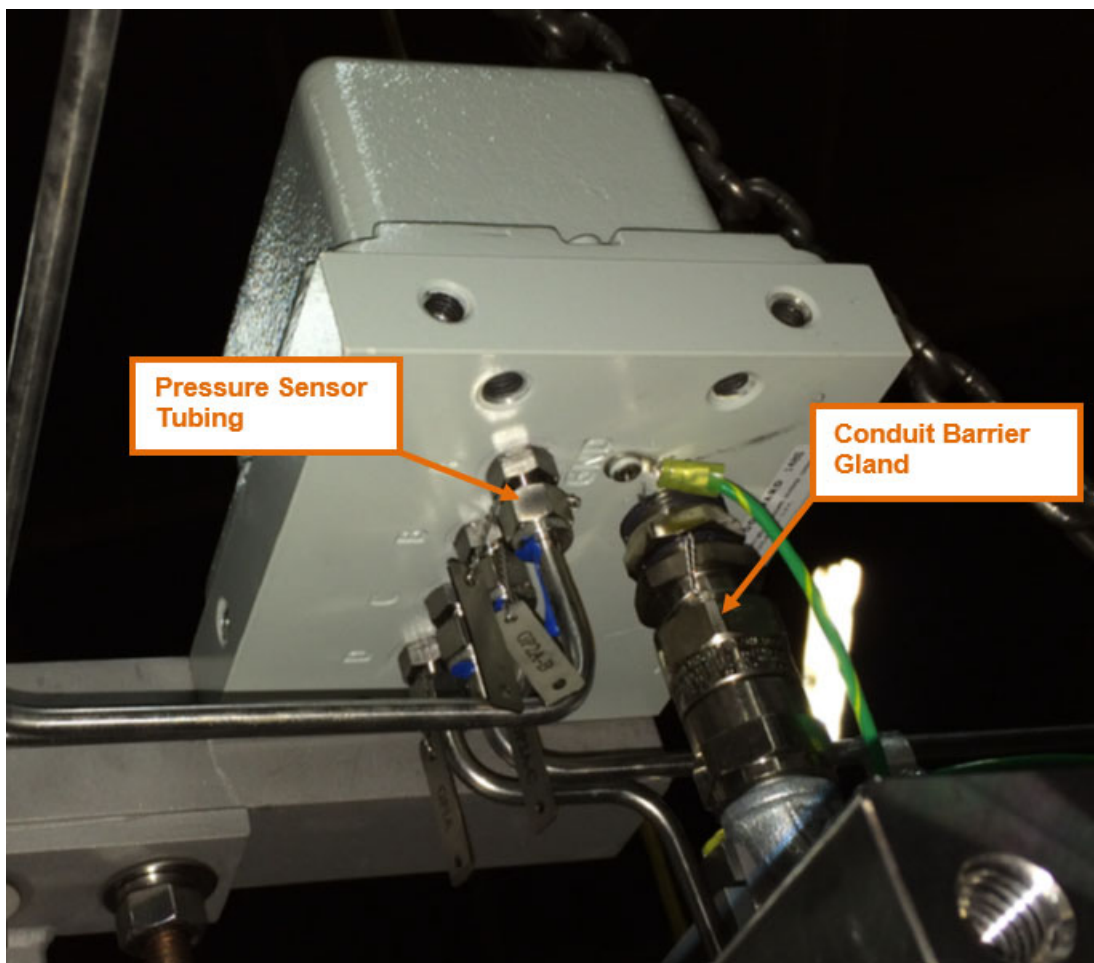

Figure 2-3. Smart Pressure Transducer Tubing and Conduit
1. Disconnect the Smart Pressure Transducer pressure tubing at the locations shown in Figure 2-3. Tape or seal open tubing connections.
15. Attach the conduit ground wire to the pressure transducer ground lug (as shown in Figure 2-3).